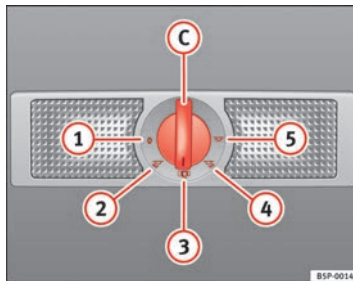

Fig. 82 Interior roof trim:
The switch ⇒ Fig. 82 (C) is used to select the following positions:
In switch position ⇒ Fig. 82 (1), the interior and reading lights are switched off.